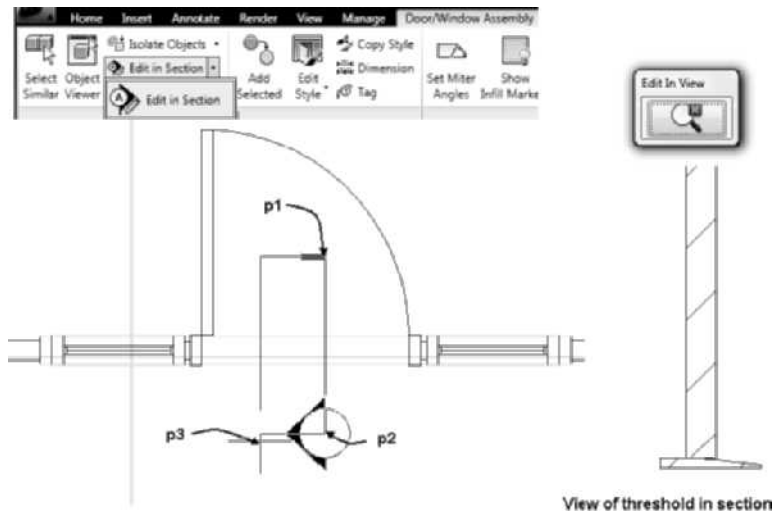

FIGURE 6.33 Front door entrance created as a door/window assembly with threshold.
- Specify first point of section line or Enter to change UCS: (Select a location near **p1** as shown in Figure 6.33.)
- Specify next point of section line: (Select a location near **p2** as shown in Figure 6.33.)
- Specify section extents: (Select a point near **p3** as shown in Figure 6.33. The threshold is shown at right in Figure 6.33.)